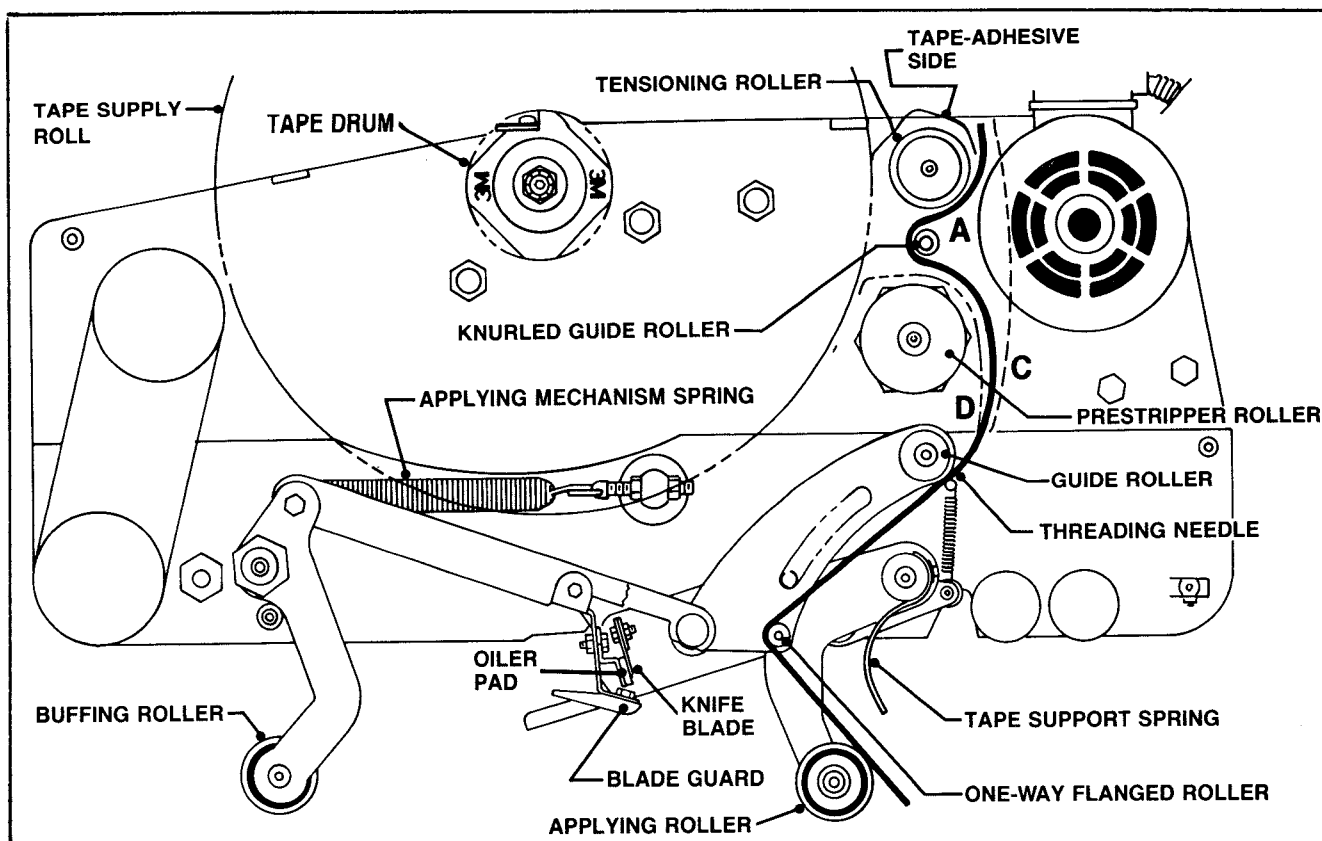

FIGURE 4A - TAPE THREADING DIAGRAM - TOP TAPING HEAD - LEFT SIDE VIEW
- 1) BOTH THE TOP AND BOTTOM TAPING HEADS UTILIZE EXTREMELY SHARP KNIFE BLADES ON THE ORANGE CUTTER LEVER ASSEMBLY AND WHICH ARE LOCATED UNDER THE GREY PLASTIC BLADE GUARD WHICH HAS THE "CAUTION - SHARP KNIFE" LABEL. BEFORE WORKING WITH THE TAPING HEADS OR ATTEMPTING TO LOAD THE TAPE, REFER TO FIGURES 4A & 5A AND IDENTIFY THE BLADE LOCATION. KEEP HANDS OUT OF THESE AREAS EXCEPT AS NECESSARY TO SERVICE THE TAPING HEADS.
- 2) NEVER MANUALLY PUSH THE APPLYING ROLLER ARM DOWN AS THIS WILL RETRACT THE BLADE GUARD AND PUT YOUR HAND IN MOTION TOWARDS THE TEETH OF THE SHARP KNIFE BLADES. REFER TO FIGURES 4A & 5A AND IDENTIFY THE APPLYING AND BUFFING ROLLERS. WHEN NECESSARY TO MANUALLY ACTUATE THE TAPE APPLYING MECHANISM, ALWAYS PUSH THE BUFFING ROLLER ARM AS IT WILL NOT DIRECT YOUR HAND TOWARD THE KNIFE BLADE TEETH.
The taping heads are equipped with a blade oiler pad that provides a film of oil on the cut-off blade to reduce adhesive build-up. Locate the oiler pad attached to the blade guard assembly, shown in figures 4A & 5A, and apply SAE #30 non-detergent oil as needed. DO NOT SATURATE.
- 2) With the temporary threading needle already in position, as shown in figure 4A, follow the tape loading procedure from figure 4C to complete the tape threading with this exception; thread tape around tensioning roller, knurled guide roller and prestripper roller in one of three paths depending on the application.
Thread upper end of needle around guide roller and through path A, C or D as shown in Figure 4A .
The S-shaped tape support spring, shown in figures 4A & 5A holds the lead end of tape in a controlled position at the applying roller. Its position is adjustable by loosening the phillips head screw on the mounting shaft, moving the spring by pivoting it around the shaft, and tightening the phillips head screw. The spring position should be adjusted so its tip is approximately 1/8 to 1/4 inch [3 to 6 mm] away from the tape when it is stretched straight between the one-way roller and applying roller.
The applying mechanism spring, shown in figures 4A & 5A controls applying and buffing roller pressure on the box and returns the mechanism to the rest position. The spring pressure is preset for normal operation but is adjustable by means of the mounting screw.